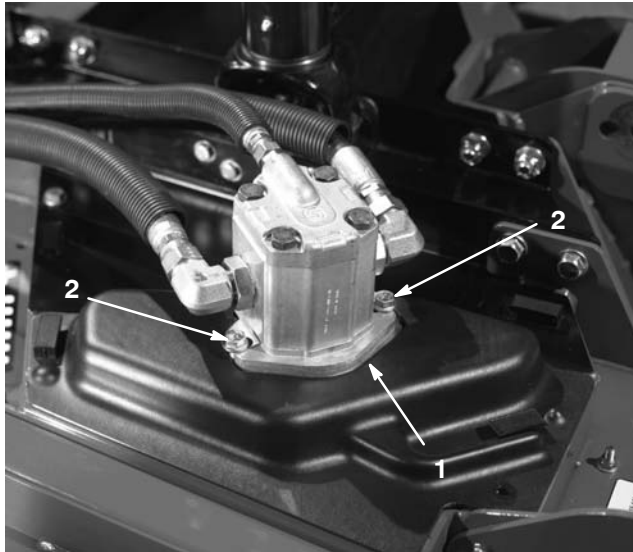

Figure 92
3. Remove the bolts securing the hydraulic motor to the cutting unit (Fig. 92). Lift the motor off of the cutting unit and lay it on top of the cutting unit.